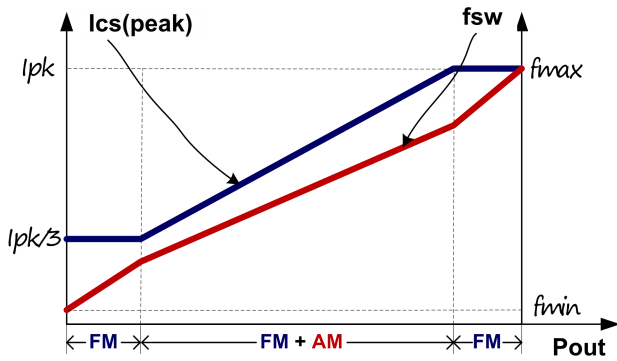

Fig.4
To meet the tight requirement of averaged system efficiency and no load power consumption, a hybrid of frequency modulation (FM) and amplitude modulation (AM) is adopted in DP2522 which is shown in the Fig 4.